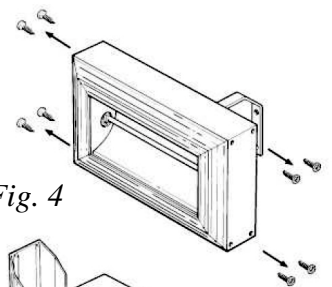

Fig. 4
3. Remove the screws from the end extrusion(s) and fascia panels (fitted between lamps on large models) adjacent to the failed lamp (see Fig.4).